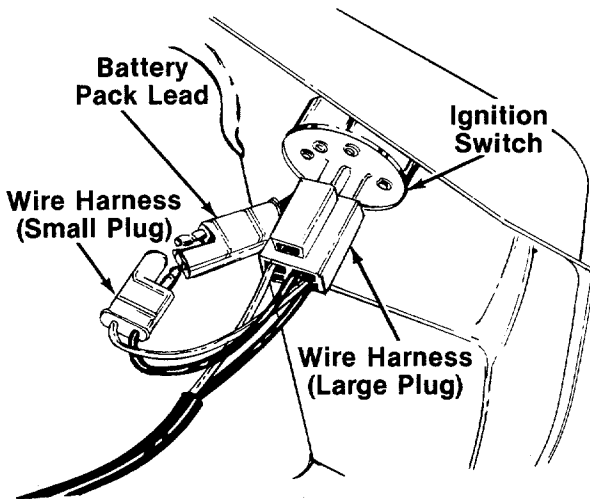

FIGURE 11.
15. Plug the large plug on the wire harness into the ignition switch. Plug the small plug on the wire harness into the battery pack lead. See figure 11.